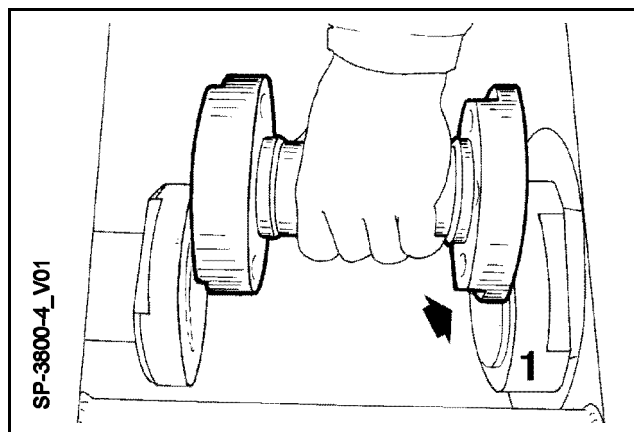

Fig. 200
- Mount distance piece with the narrow flange onto the pumping piston (1) (**Fig. 200**).